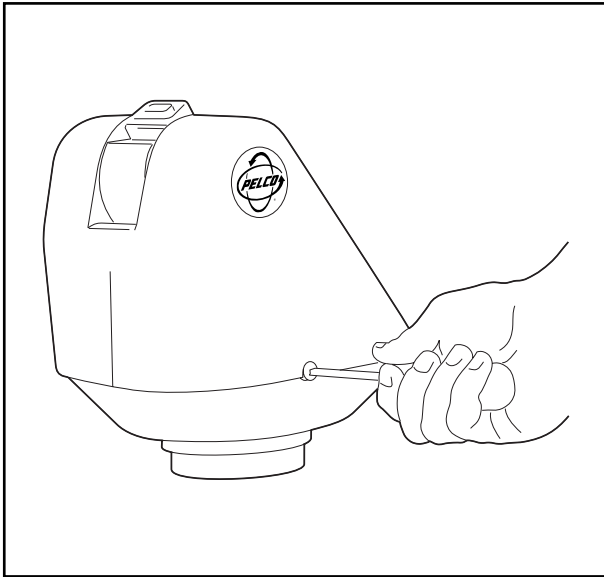

Figure 3. Removing the Screws
- a. Refer to Figure 3 and remove the Phillips screw on each side of the pan/tilt unit.